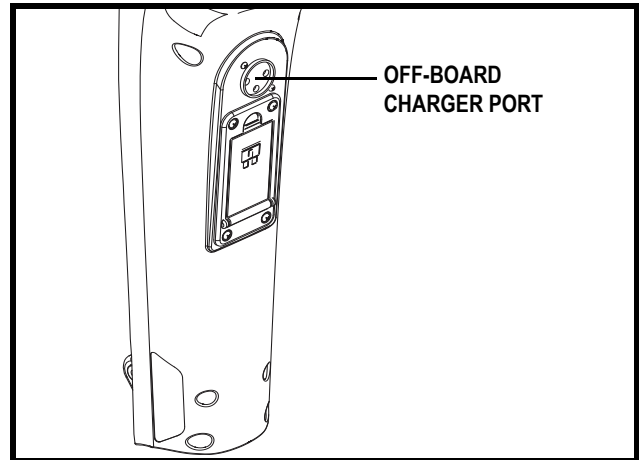

Figure 5. Off-board Charger Port (Tiller Mounted)
The off-board charger power cord plugs into this port during battery charging. The off-board charger port will be located on the tiller. See **figure 5**.
4. Plug the 3-pin charger power cord into the off-board charger port. **See figures 5 and 10.**